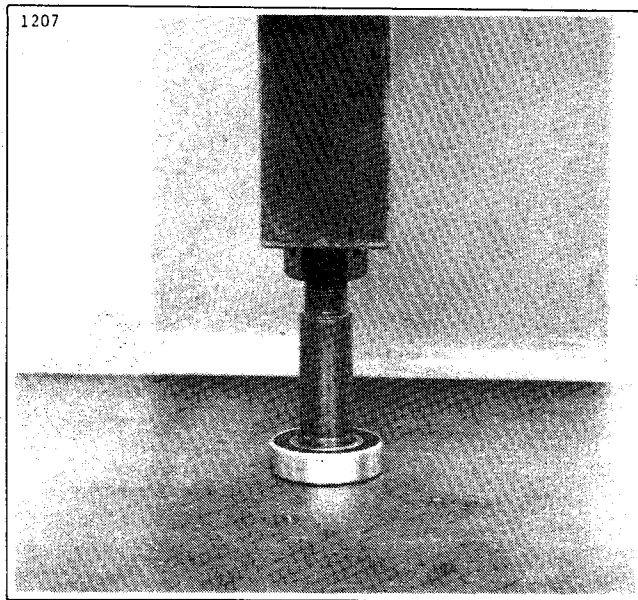

Figure 2A-12E. Pressing Bearing Off Axle
10. Axle bearing (7) can be pressed from axle shaft (10) by supporting bearing inner race on press bed and applying pressure to the axle nut on end of shaft (Figure 2A-12E).